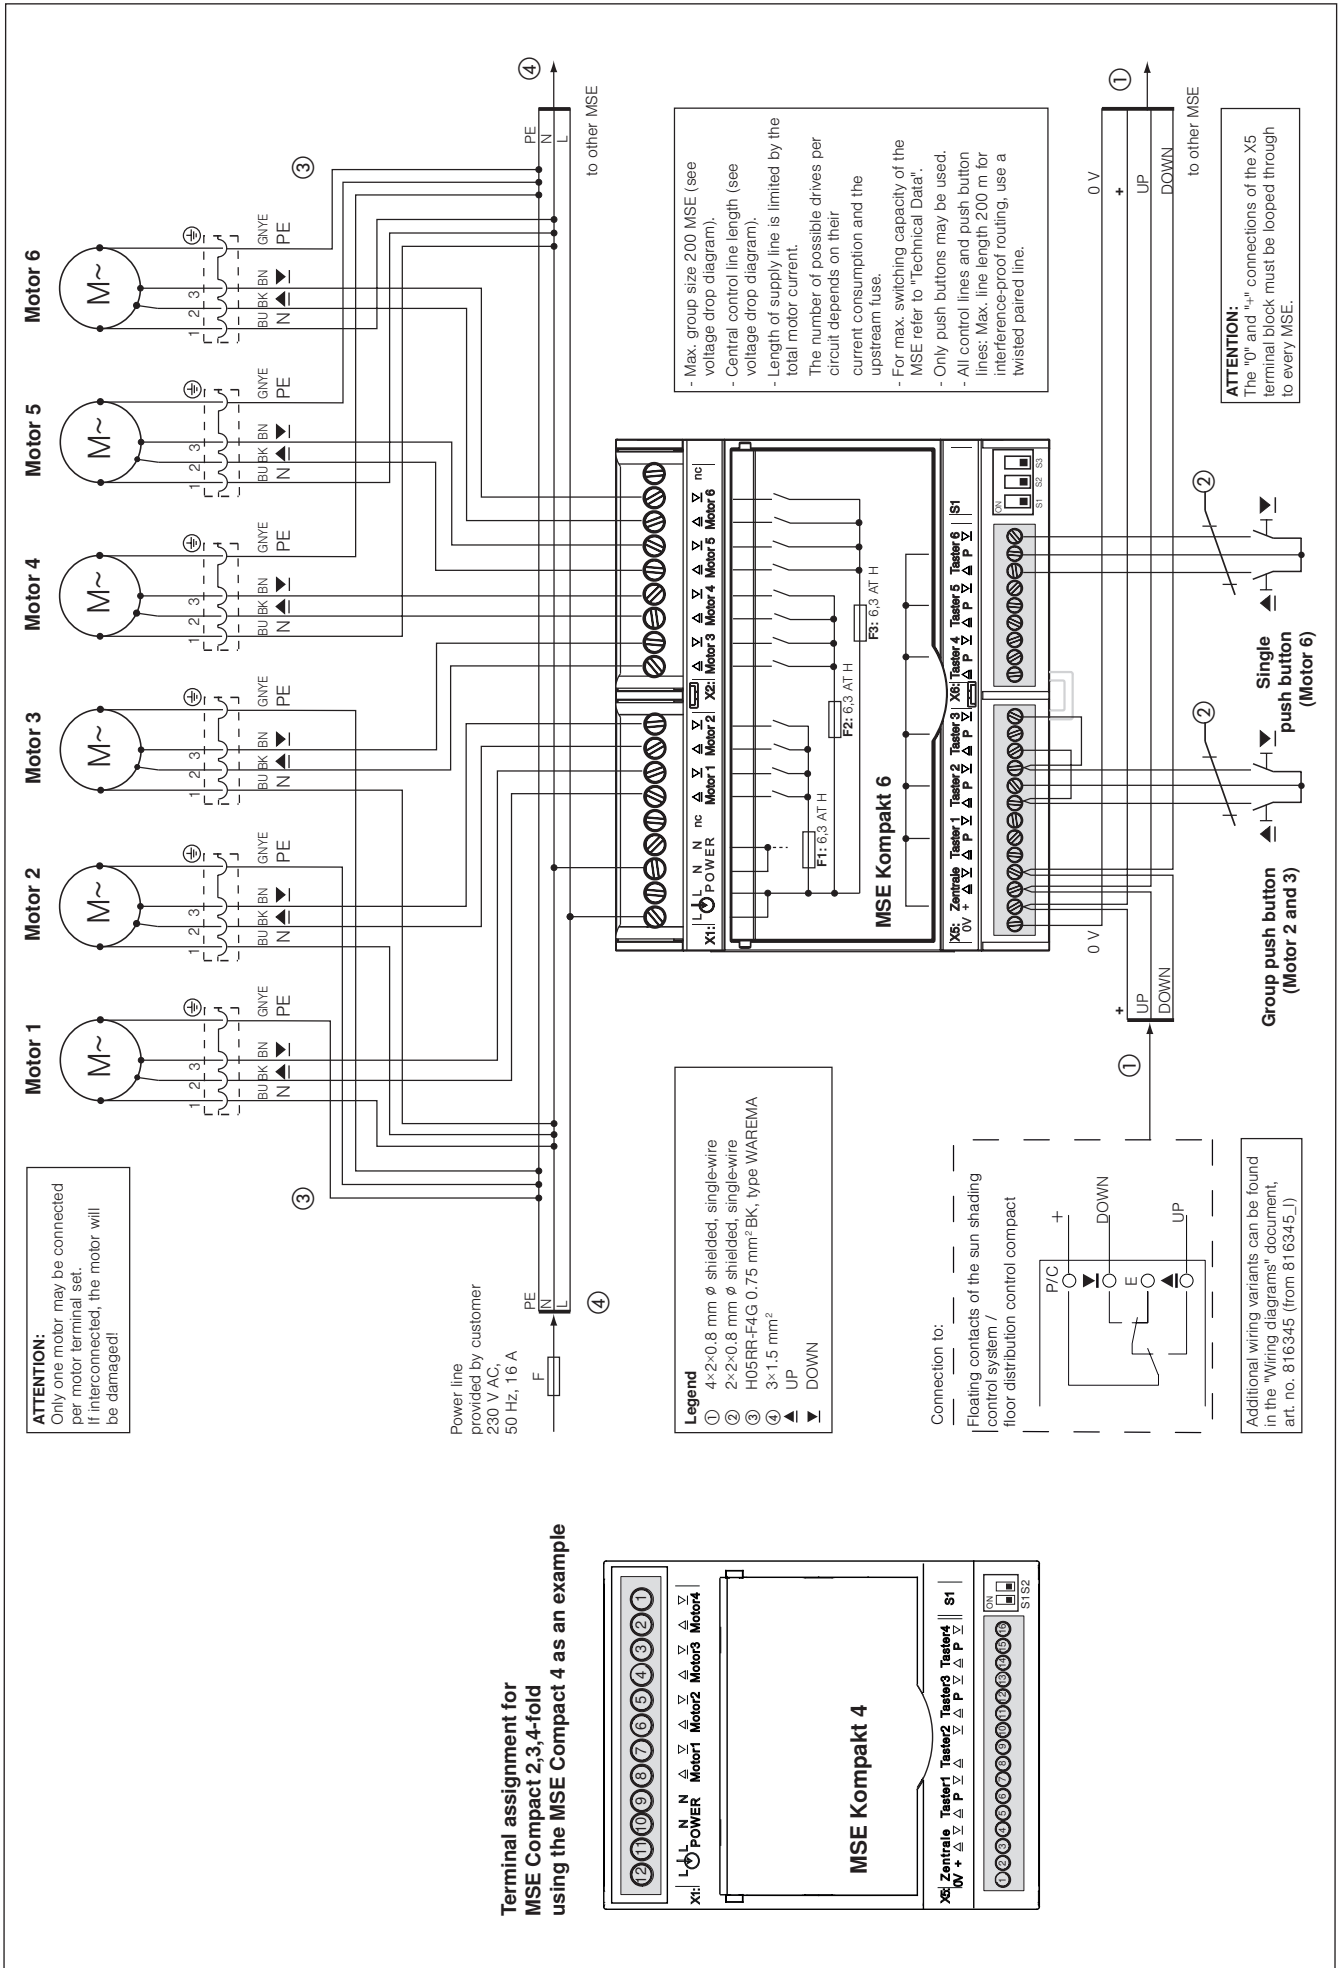

Fig. 4 Connection example MSE Compact 6 REG in 6 MW housing
- The motor control unit is electrically connected according to the wiring diagram on the back (see Fig. 4).